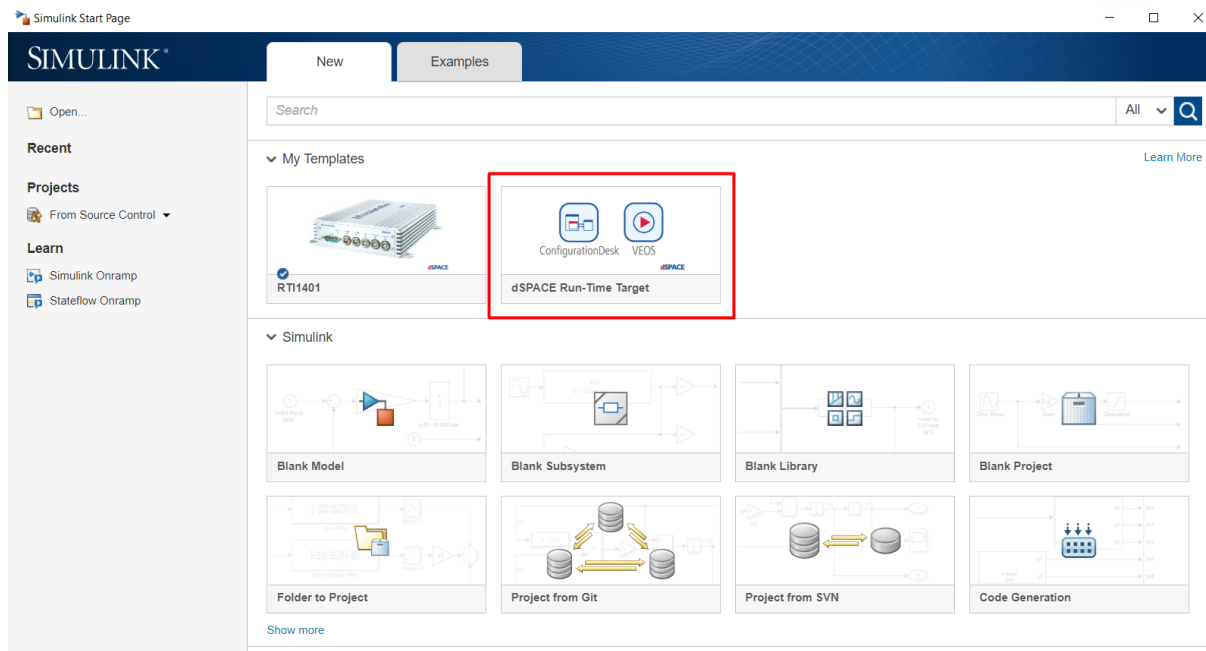

Figure 13.29: Create a Simulink model.
- 1) Create a new Simulink model (henceforth referred to as `dSPACE.slx`) using the dSPACE Run-Time Target template provided by dSPACE and save it in the BasicExample folder (see Figure 13.29).